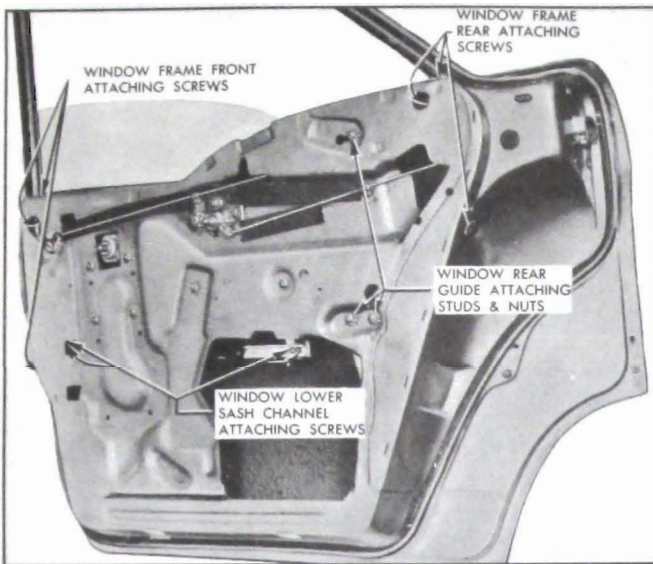

Figure 13-54—Rear Door Window—Model 41
3. Remove window lower sash channel cam attaching screws, Figure 13-54.